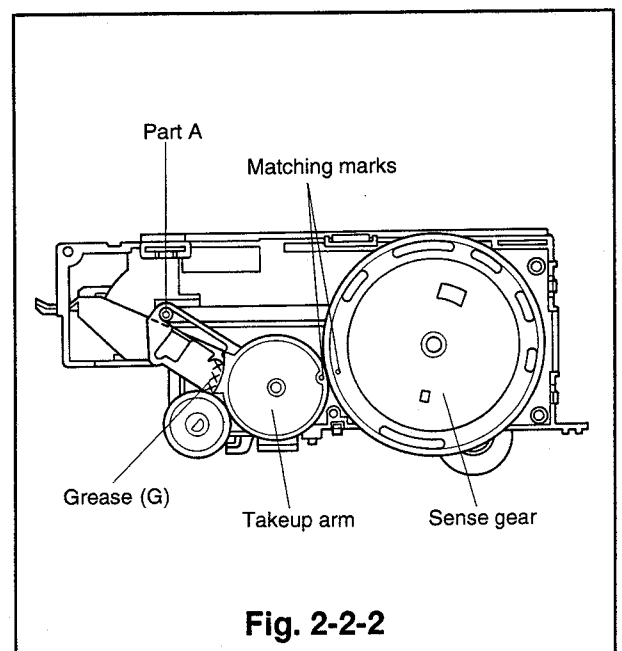

Fig. 2-2-2
- ① Apply the grease(G)[859D055050] to the area of the new takeup arm shown in Fig. 2-2-2 and 2-2-4.
- ⑥ Shift the bottom plate back to the eject position and install the sense gear so that the matching marks of the sense gear and the takeup arm align to each other as shown in Fig. 2-2-2.
- ⑦ Install the side plate.
- ⑧ Install the cassette housing. (Refer to Para. 2-1 for the installation method.)